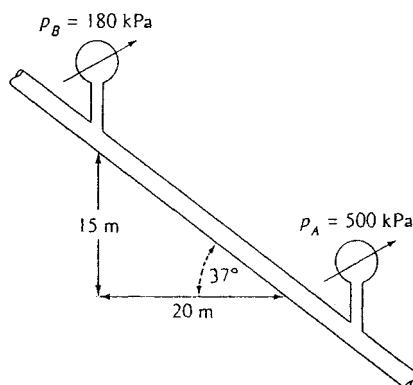

Fig. P6.32
**6.32** SAE 30 oil at 20°C flows in the 3-cm-diameter pipe in Fig. P6.32, which slopes at 37°. For the pressure measurements shown, determine (a) whether the flow is up or down and (b) the flow rate in m3/h.